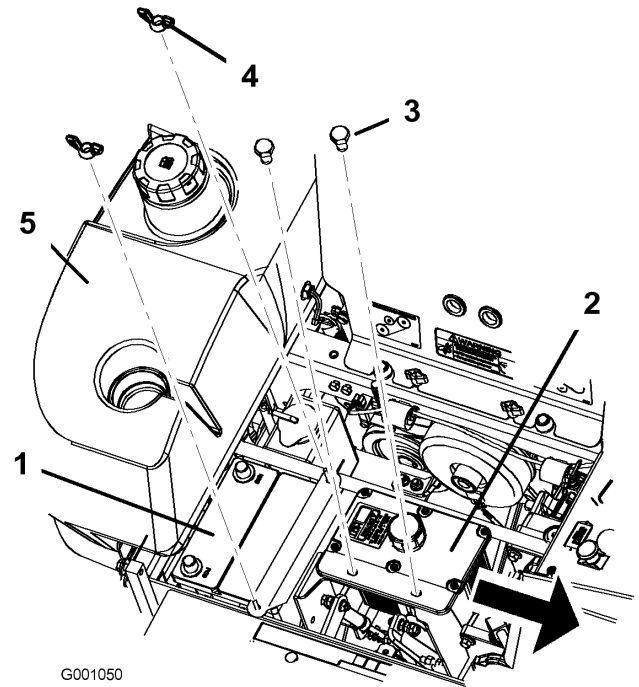

Figure 39
1. Position battery in the tray with the terminal posts opposite from the hydraulic tank (Figure 39).
6. Secure battery with J-bolts, hold down clamp and 2 washers (1/4 inch), and 2 wing nuts (1/4 inch) (Figure 39).
6. Remove both wing nuts (1/4 inch) securing the battery clamp (Figure 39).
7. Remove the two bolts holding the hydraulic tank in place (Figure 39).